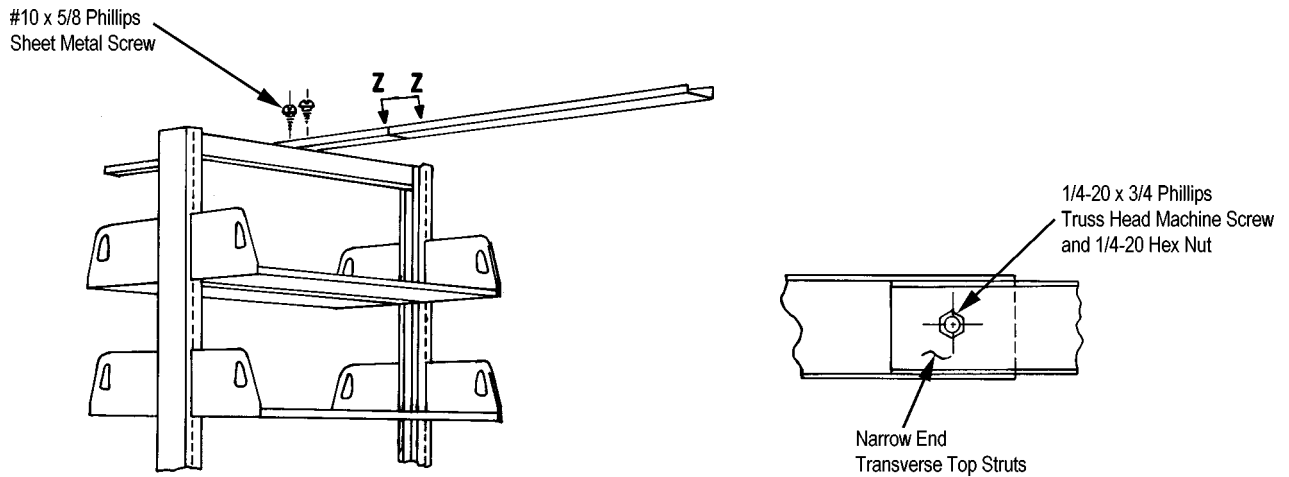

FIGURE 30
1. Top struts are used with non-freestanding and open-base bookstacks to tie units together and add stability. See Figure 30.
2. Top struts are fabricated with different dimensions on each end. Insert narrow end of one into wider end on the next top strut. See View Z-Z. Use one (1) 1/4-20 x 3/4 Phillips truss head machine screw and one (1) 1/4-20 hex nut to secure top struts together.
3. Use two (2) #10 x 5/8 sheet metal screws to secure transverse top struts to the top rail of welded frame. See Figure 30.